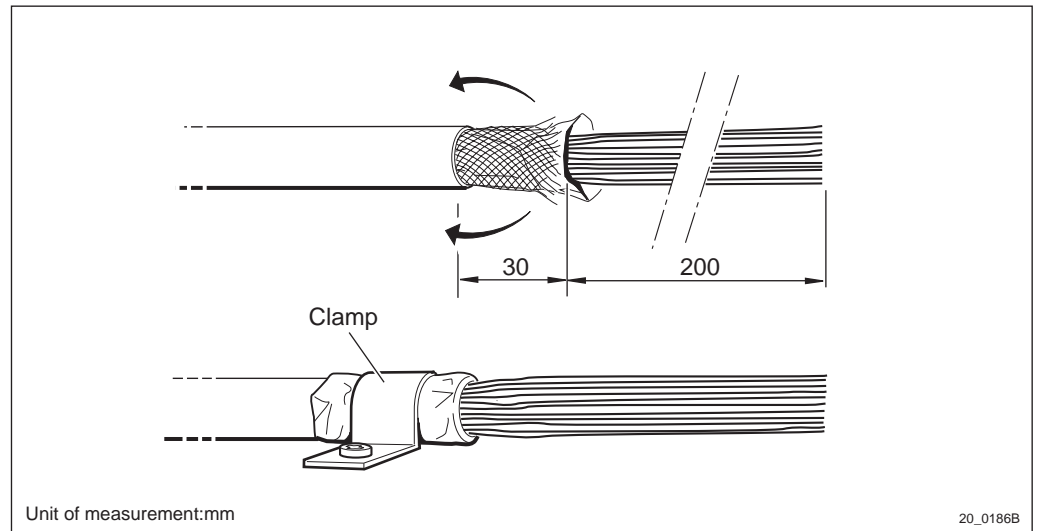

Figure 2 Alarm cable preparation
1. Run the connection cable (pos 40 in table 2) to the mounting plate (pos1).
3. Pass the external alarms coming from the outside of the site building via the voltage arresters (pos 10) before the cable wires are connected to the terminal block.
4. Strip the end of the cable as shown in figure 2.
5. Fold back the cable screen braid and fix the cable by the clamp (pos 12) over the cable shield and to the mounting plate as shown.